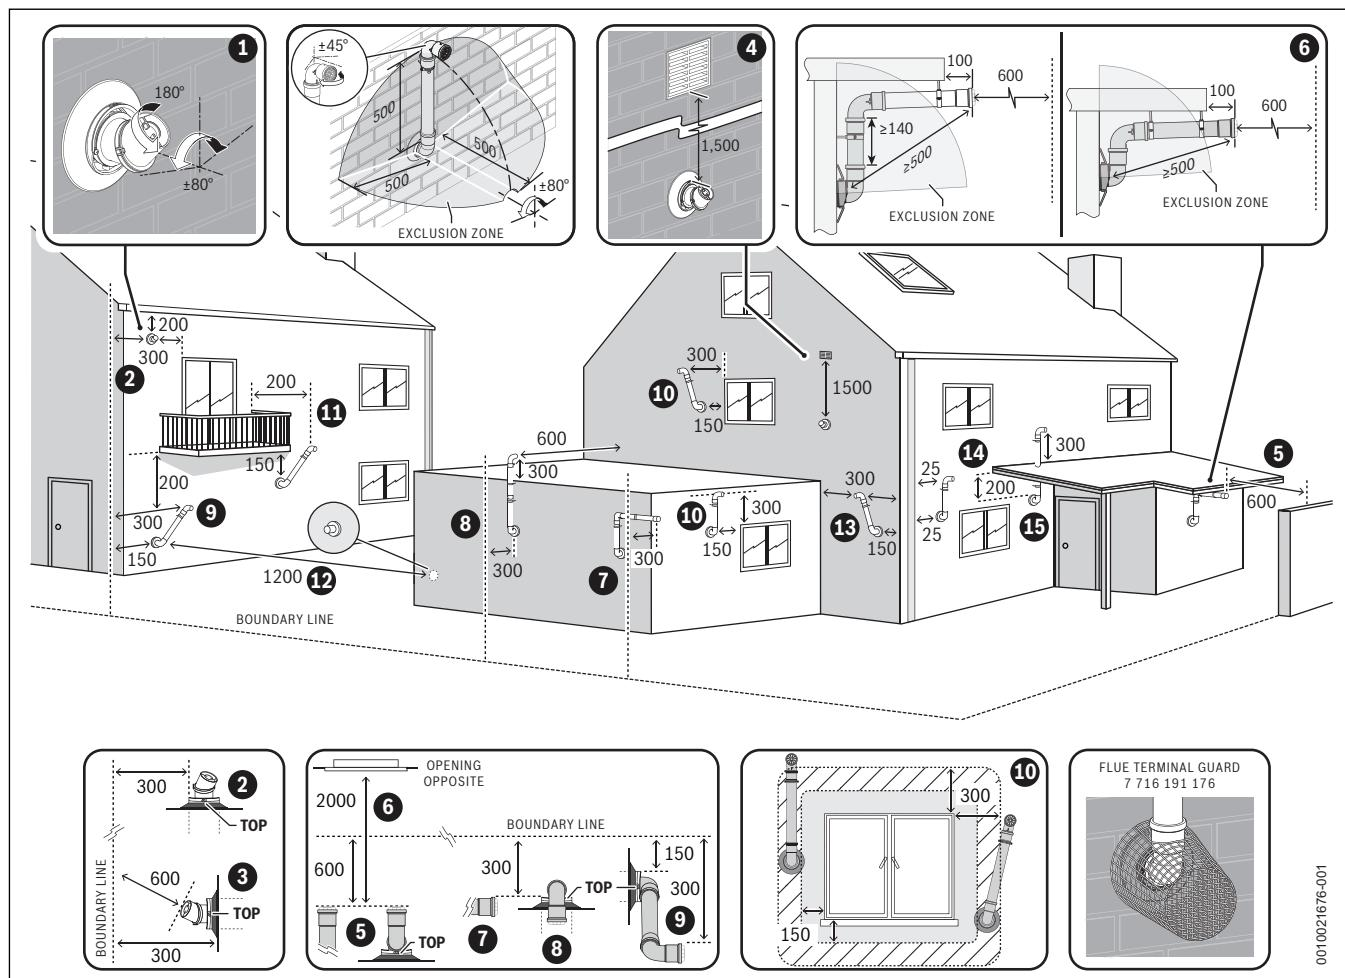

Fig. 28 Plume re-direct and plume management terminal positions
- ▶ Refer to "Horizontal flue terminal positions" for all concentric flue terminal positions unless the flue position is specified in figure 28 "Plume re-direct and plume management terminal positions".
Key to figure 28 - Plume re-direction terminal positions:
Key to figure 28 - Plume management terminal positions: